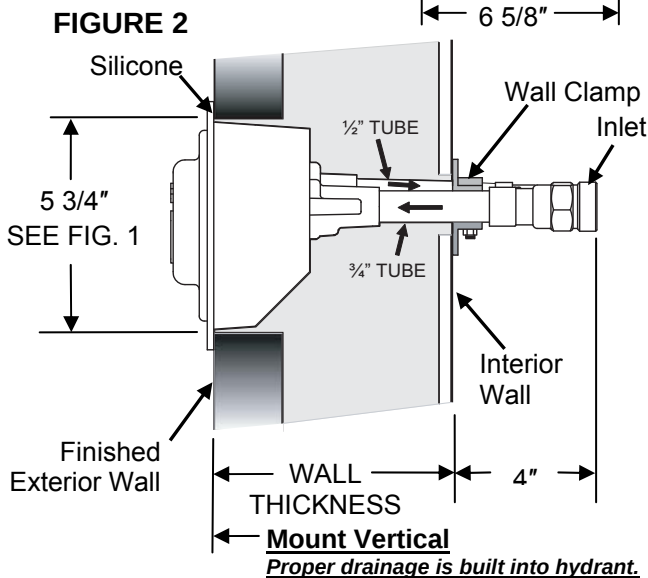

FIGURE 2
3. Apply silicone or equivalent behind the box flange to seal and help support hydrant. FIGURE 2
4. Insert the box and faucet assembly from the outside. FIGURE 2
5. The top box flange must be installed in the horizontal position and level. *Do not install in vertical position.* FIGURE 2
6. The hydrant Inlet must be located in a warm area of the building interior. FIGURE 2
7. Install adjustable Wall Clamp over water tubes and slide snug to interior wall. FIGURE 2